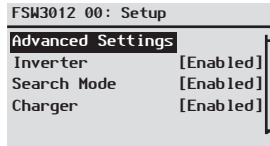

Figure 21 Selecting Advanced Settings From the Device Setup Screen
1. On the **FSW3012 00:Setup** screen (Figure 21), press the **Enter**, Up arrow, Down arrow buttons simultaneously to make Advanced Settings appear in the list.